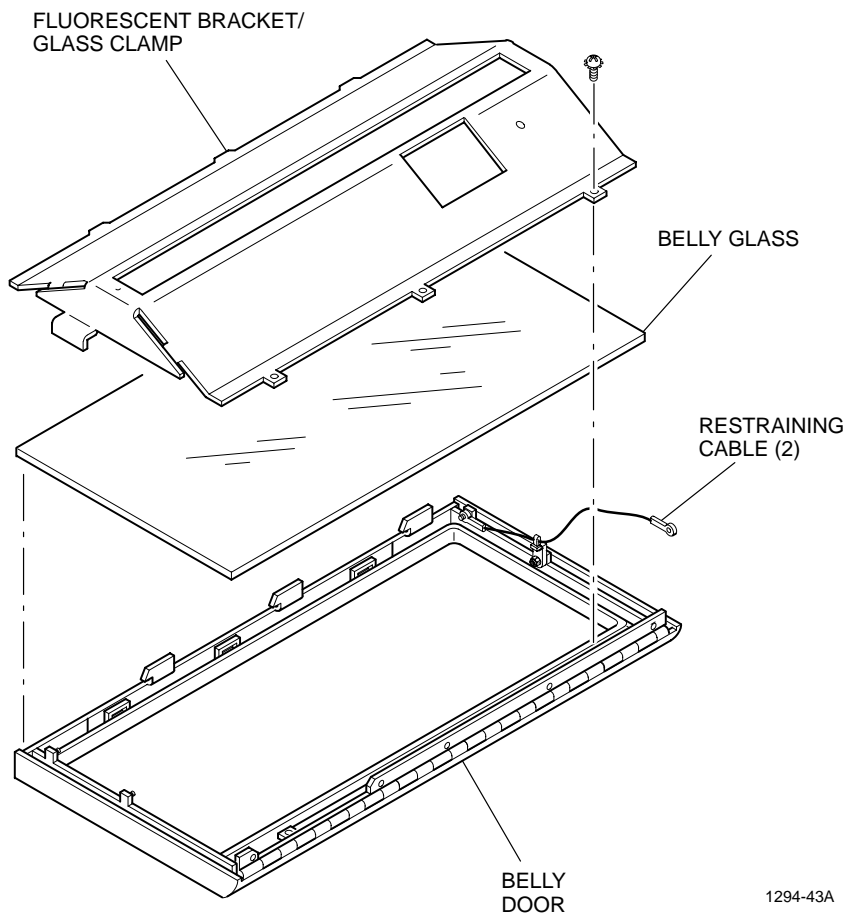

Figure 15-1. Belly Glass Removal.
4. Remove the three screws and the fluorescent bracket/glass clamp from the belly door (see Figure 15-1).